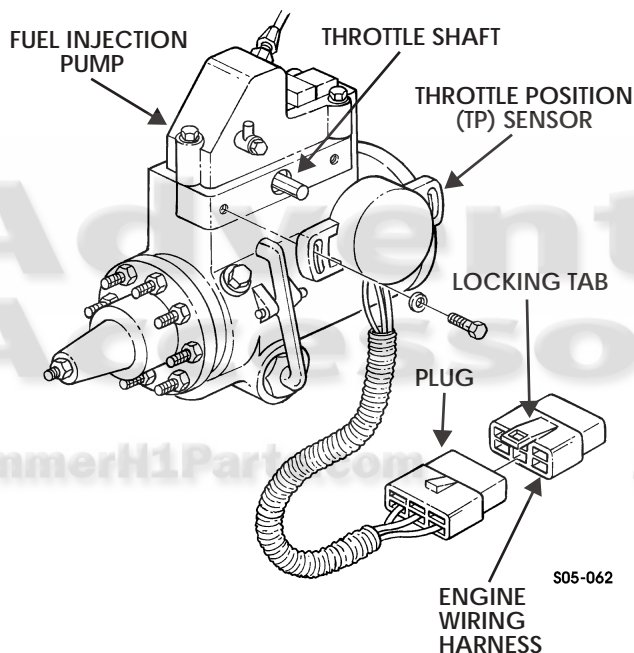

Figure 5-105: Throttle Position Sensor
2. Release locking tab on socket of engine wiring harness and disconnect plug from engine wiring harness (Figure 5-105).
1. Ensure throttle is closed, and place TP sensor on throttle shaft of fuel injection pump (Figure 5-105).